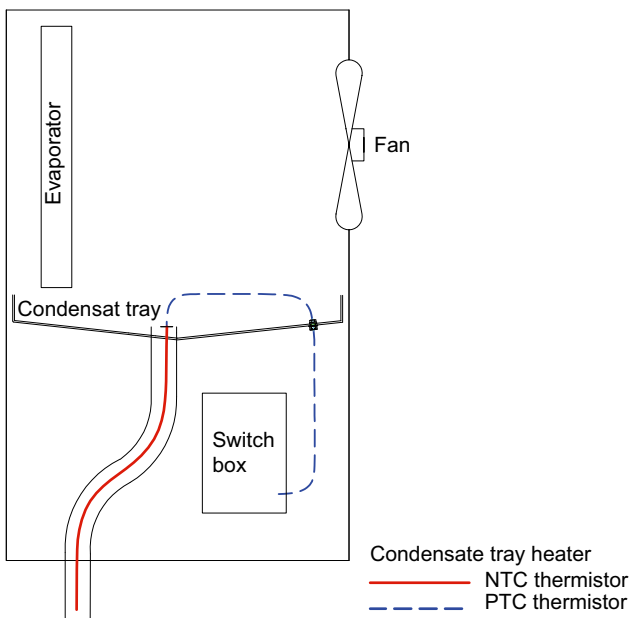

Fig. 1.5:
- 2) Install the supplied condensate drain heater (see Fig.1.5 on pag. 2).